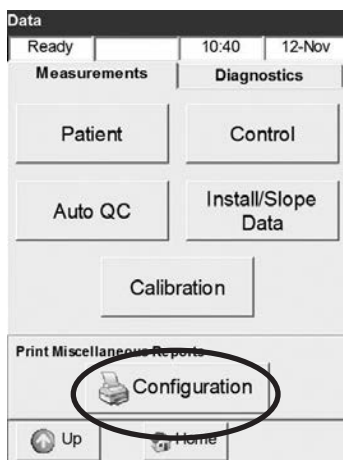

Fig. 7-53 Configuration Report
- To print a configuration report, select **<Configuration>** in the **<Data>** screen (Fig. 7-53).